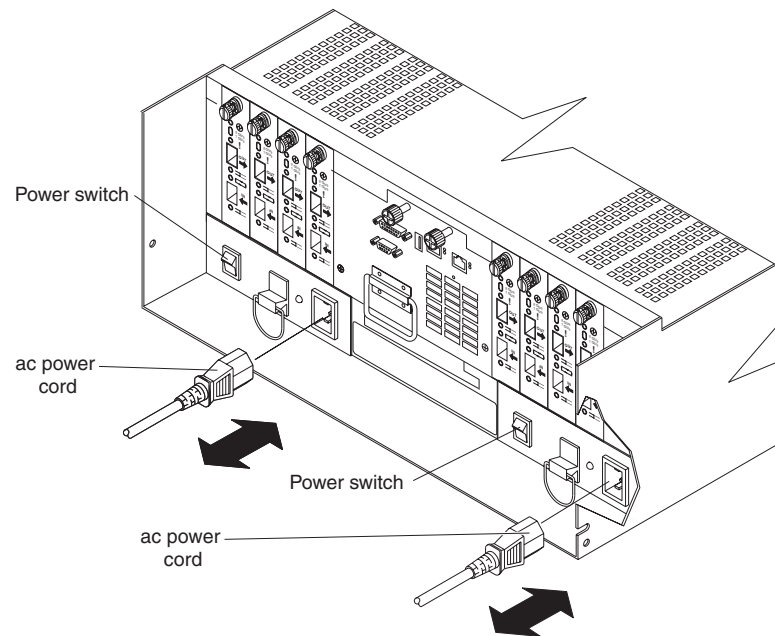

Figure 22. Connecting the power cords and power switch locations
- b. Turn on the power-supply switches on the back of the FAStT700 Storage Server (see Figure 22 on page 19). You must turn on both power-supply
- b. Turn off power to the storage server *before* you turn off power to the drive enclosures. Turn off both power supply switches on the back of the storage server. See Figure 22 on page 19.